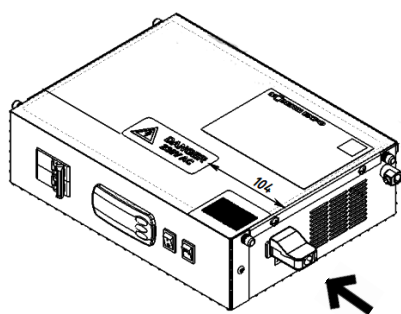

Fig. 32. Control unit
- on the control unit, remove the unplugged connector (Fig. 32);